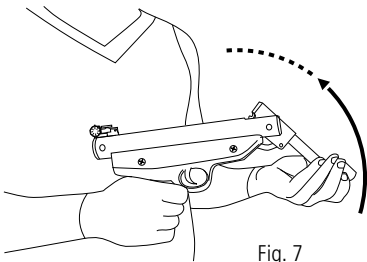

Fig. 7
- Bring the barrel to its fully closed position. (Fig. 7)